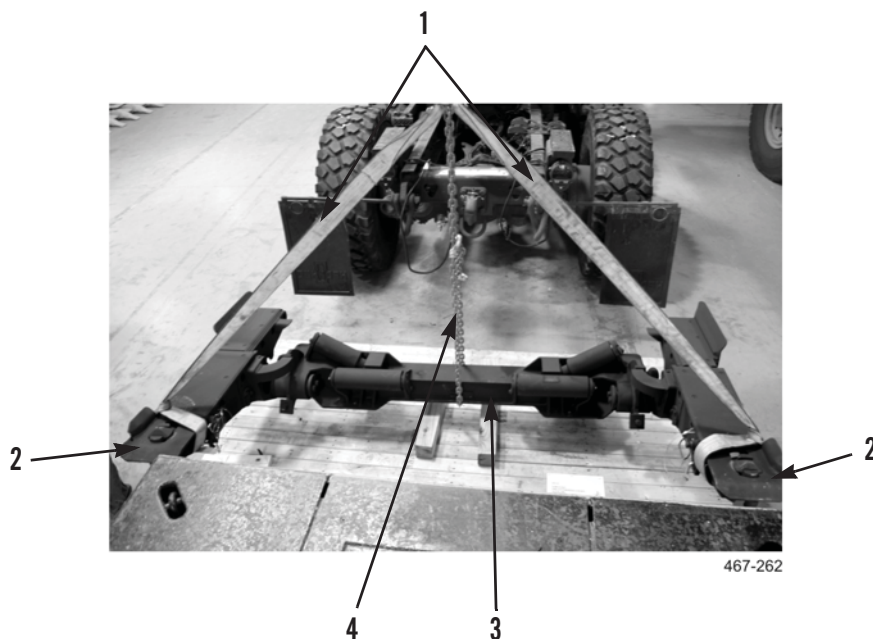

Figure 9. Slider Assembly With Straps.
1. Attach sling and lifting device to slider assembly. Loop one strap (Figure 9, Item 4) around center of beam (Figure 9, Item 3) and two straps (Figure 9, Item 1) on right and left twistlock housings (Figure 9, Item 2). Adjust placement of straps until slider assembly is level when raised.